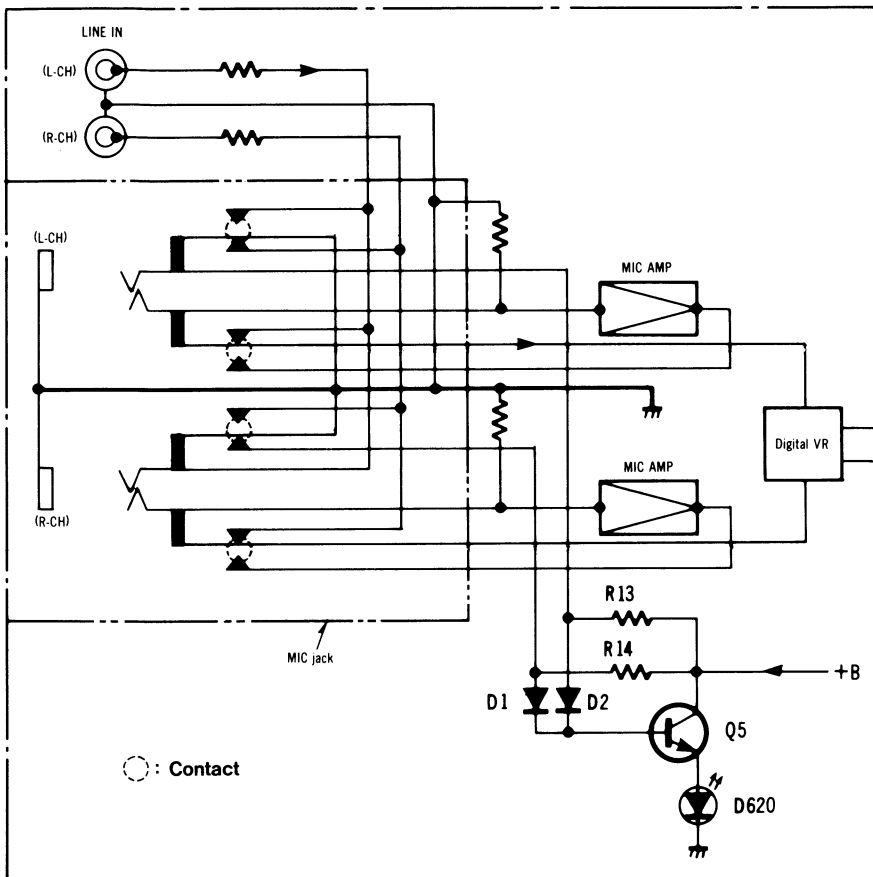

Fig. 1
5. Attach the screw (A) in the position as shown in fig. 1 on page 3.
The automatic input changeover mechanism is simplified as shown in fig. 1.